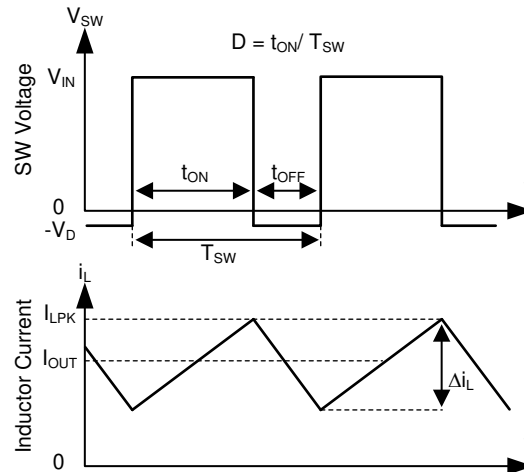

图 10-1. SW Node and Inductor Current Waveforms in Continuous Conduction Mode (CCM)
The following operating description of the TPS25830-Q1, TPS25831-Q1 will refer to the *Functional Block Diagram* and to the waveforms in Figure 10-1. TPS2583x-Q1 is a step-down synchronous buck regulator with integrated high-side (HS) and low-side (LS) switches (synchronous rectifier). The TPS2583x-Q1 supplies a regulated output voltage by turning on the HS and LS NMOS switches with controlled duty cycle. During high-side switch ON time, the SW pin voltage swings up to approximately V_{IN} , and the inductor current i_L increase with linear slope $(V_{IN} - V_{OUT}) / L$. When the HS switch is turned off by the control logic, the LS switch is turned on after an anti-shoot-through dead time. Inductor current discharges through the LS switch with a slope of $-V_{OUT} / L$. The control parameter of a buck converter is defined as Duty Cycle $D = t_{ON} / T_{SW}$, where t_{ON} is the high-side switch ON time and T_{SW} is the switching period. The regulator control loop maintains a constant output voltage by adjusting the duty cycle D . In an ideal buck converter, where losses are ignored, D is proportional to the output voltage and inversely proportional to the input voltage: $D = V_{OUT} / V_{IN}$.
The TPS2583x-Q1 is internally compensated as shown in 图 10-1. The internal compensation is designed such that the loop response is stable over the specified operating frequency and output voltage range. The TPS2583x-Q1 is optimized for transient response over the range $300 \text{ kHz} \leq f_{sw} \leq 2300 \text{ kHz}$.